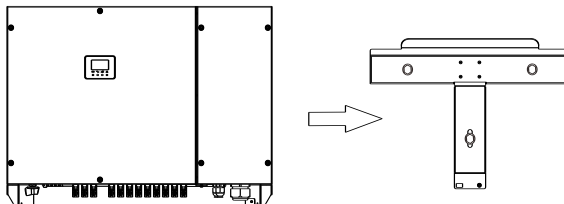

Figure 4.10 Install the inverter onto the mounting bracket
- Step 3 : Install the inverter onto the mounting bracket. Ensure that the three supporting points (on the rear side of the inverter) contact the mounting bracket correctly, as shown in Figure 4.10